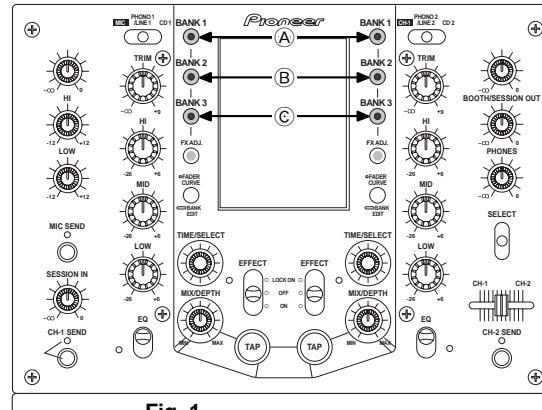

Fig. 1
If the unit is accidentally turned on without rewriting the program of the LCD microcomputer ② after any of the program or data blocks ③-⑤ was (were) rewritten, the LED of the main unit (see Fig. 1) will blink. Be sure to wait until the LED stops blinking and remains lit, then turn off the unit. If you turn off the unit while the LED is blinking, the unit will not operate properly.